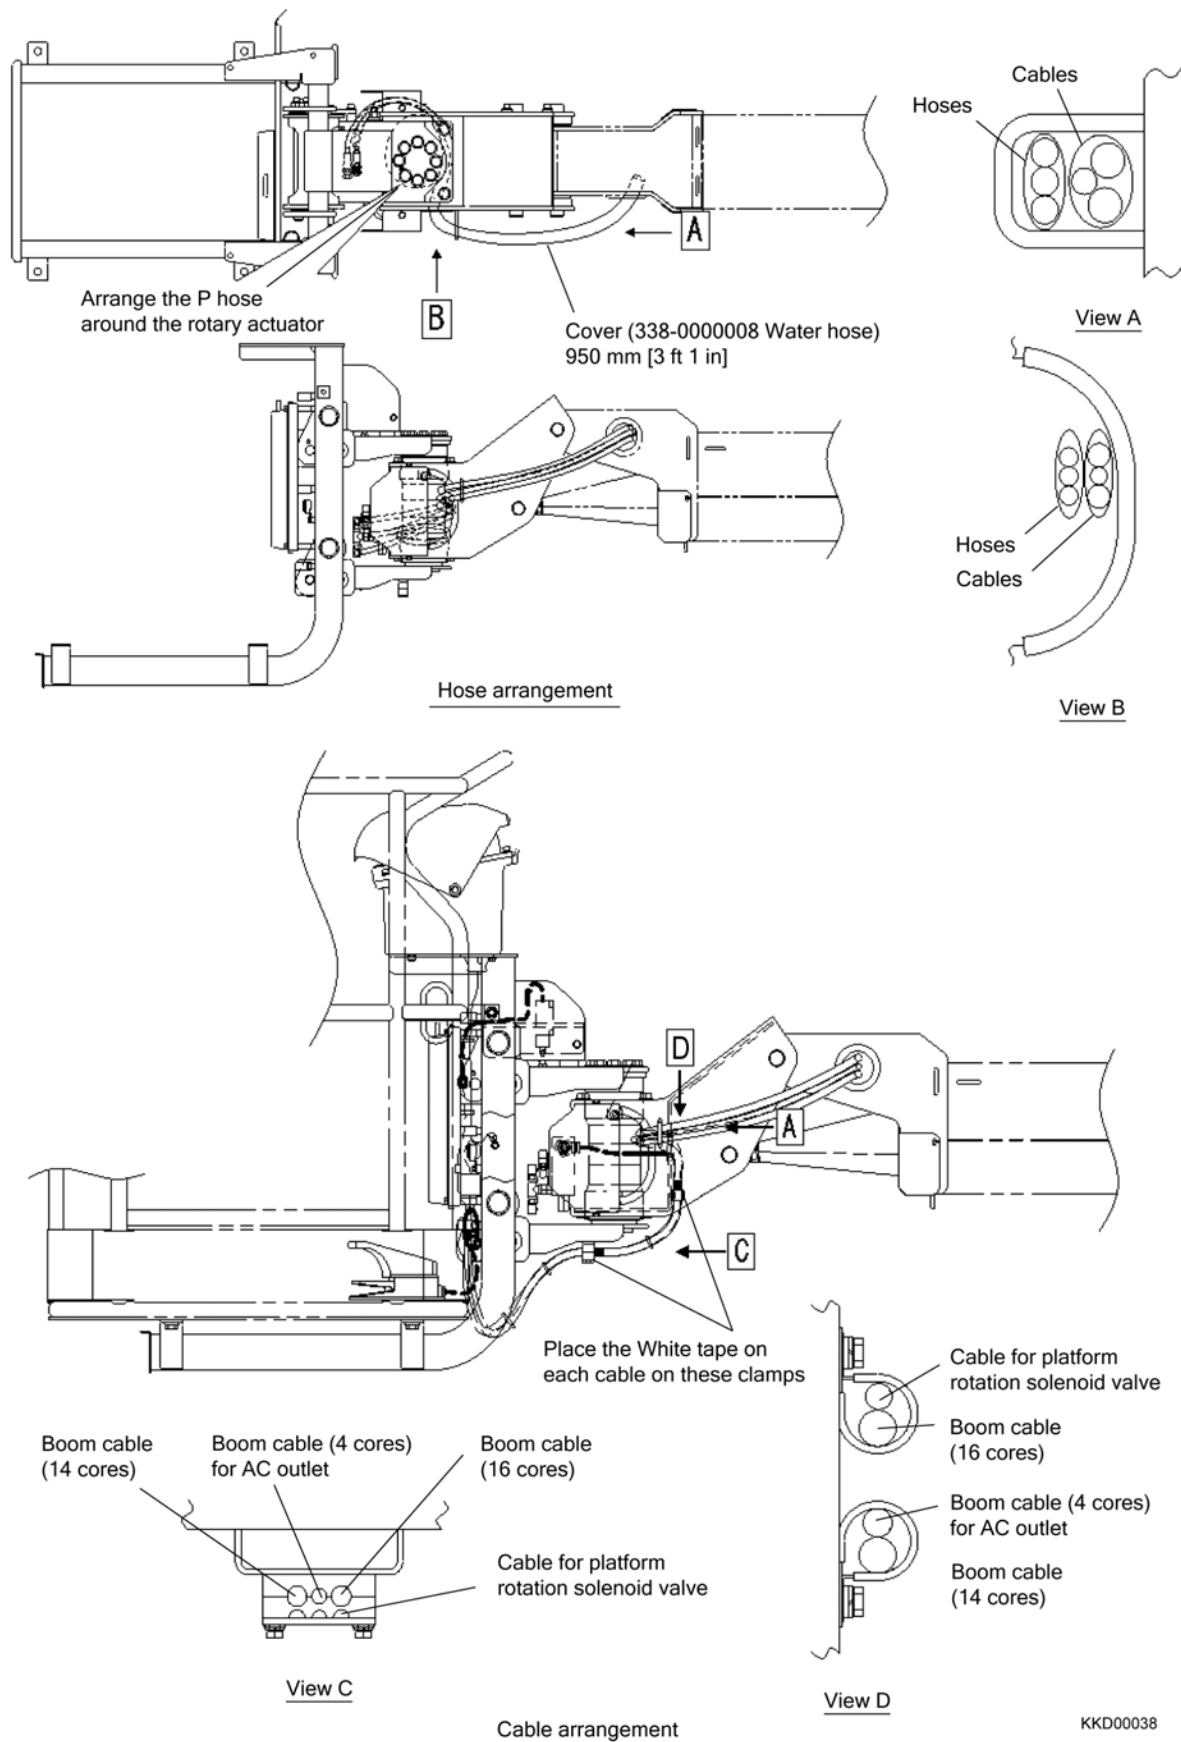

Fig. 2-67
22) Arrange the hoses and cables as shown in the Fig. 2-67.